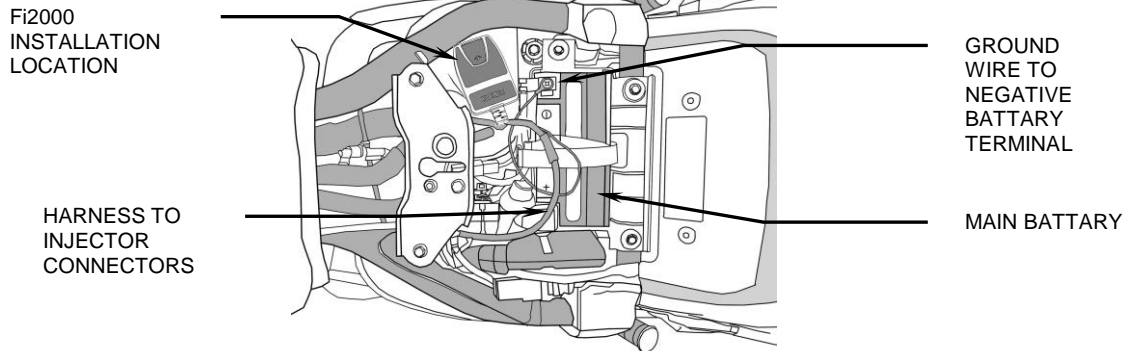

FIGURE 1
2. Position the Fi2000® module in the area under the seat, then feed the Fi2000 injector harness with the four connectors forward under the seat latch bracket, under the fuel tank and along the upper left side frame rail and to the injector area between front and rear engine cylinders, see Figure 1.
6. Clean off the top of the fuel pump tank and remove backing from supplied Velcro. Mount the Fi2000 on top of the tank, see Figure 1. Lift up the tool tray / battery cover to access the negative post of the battery. Attach the ground wire from the Fi2000 to the negative post. Reinstall the cover. Before reinstalling the seat, verify Fi2000 harness connections have been made properly.